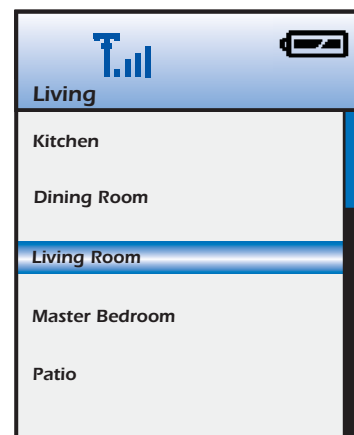

Figure 44
4. When the MODE Free has joined the network, the **Join Network LED** on the **Coordinator** will turn **OFF** and the **Activity LED** will **flicker** to indicate wireless network activity. The Hard key backlight and LCD will flash once and the SpeakerCraft Logo will appear on the LCD. After a few seconds, the **Select A Zone Screen** will open. (Figure 44)
5. In the **Select A Zone Screen**, use the **Scroll Wheel** to highlight the desired **zone**. (Figure 44) Press the **Click Button** to select the **zone**. The MODE Free will assume the control configuration for **that zone** as setup and programmed in EZ-Tools.
1. In the **MODE Main Menu Screen (Source Select Screen)**, press the **Menu Button**. The **Select a Zone Screen** will open. (Figure 44)
2. In the **Select A Zone Screen**, use the **Scroll Wheel** to highlight the desired **zone**. (Figure 44) Press the **Click Button** to select the **zone**. The MODE Free will assume the control configuration for **that zone** as setup and programmed in EZ-Tools.